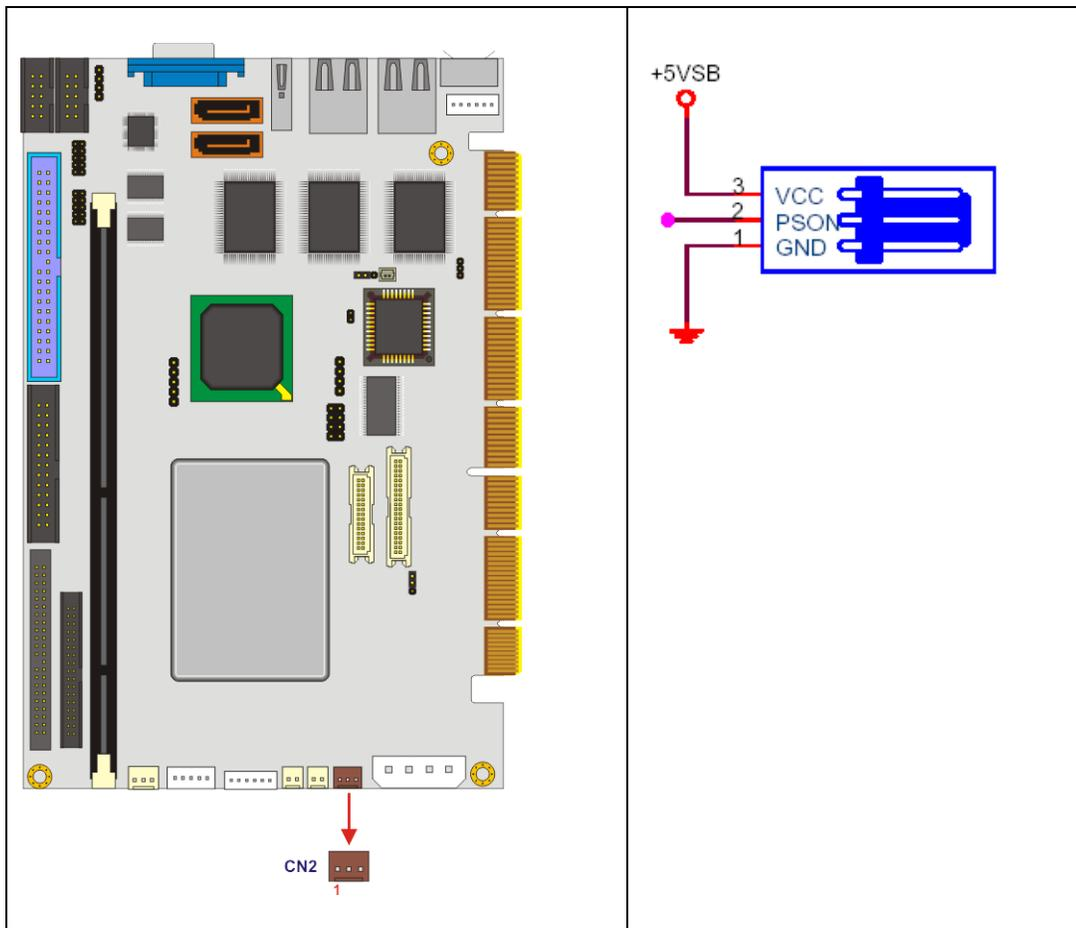

Figure 3-20: PS-ON Signal Connector Location
- CN Location:** See **Figure 3-20**